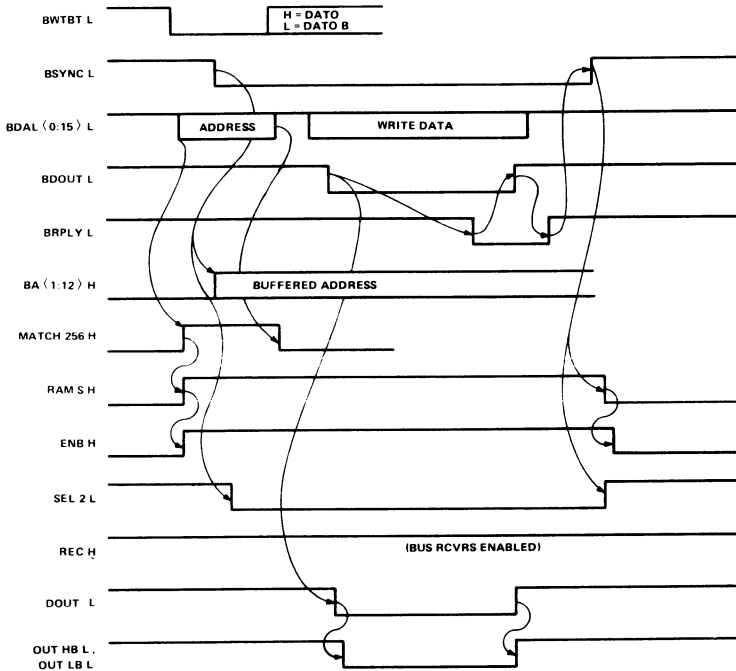

Figure 17-16 RAM Write Sequence (DATO or DATOB)
*RAM Write Sequence* A RAM write sequence is initiated by the addressing portion of the bus cycle as described for the RAM read sequence. However, REC H remains high for the duration of the sequence (Figure 17-16), enabling the receiver portions of the bus transceivers. The data portion of the sequence is initiated when the bus master device places the write data word on BDAL<0:15> L for a DATO operation, or a data byte on BDAL<0:7> L (low byte) or BDAL<8:15> L (high byte). The bus master then asserts BDOUT L, indicating that valid write data are on the bus. The MRV11-BA protocol logic responds to BDOUT L by asserting both OUT HB L and OUT LB L if BWTBT L is not asserted (high) by the bus master (DATO bus cycle), or only the OUT HB/LB L signal if BWTBT L is asserted (low). The logical state of BDAL0 during the addressing portion of the sequence determines which OUT signal becomes active. In this manner, BDAL0 L serves as a byte pointer. If it was not asserted (high) during the addressing portion of the sequence, OUT LB L goes active (low), enabling writing into the low byte only of the addressed RAM location; similarly, if BDAL0 L was asserted (low), OUT HB L goes low, enabling writing into the high byte only of the addressed RAM location.